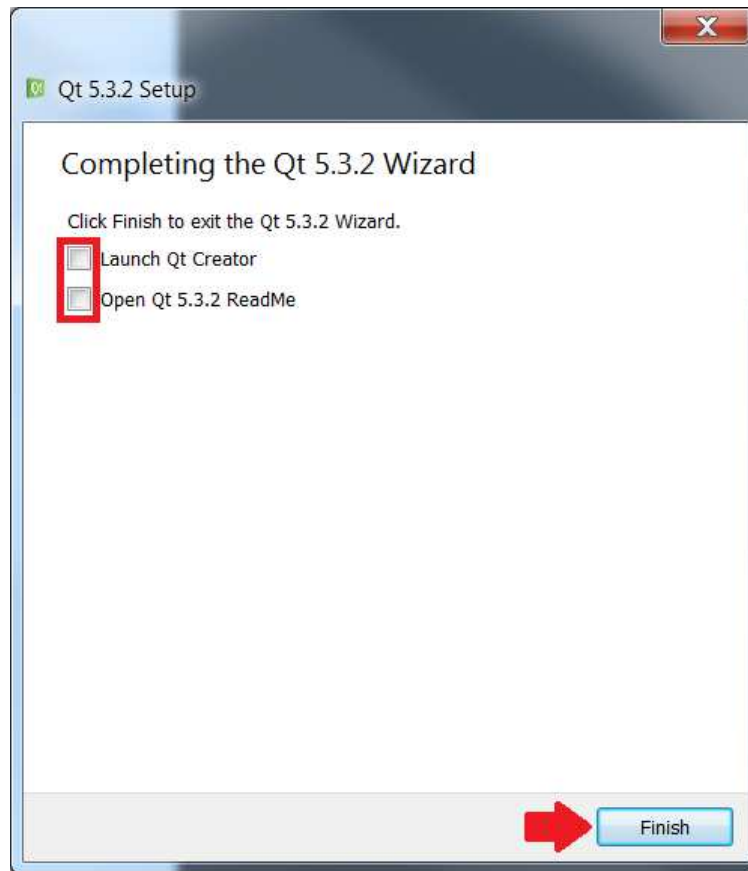

Figure 9. Qt Install Complete
8. Once Qt has finished installing, click “Finish.” Uncheck the boxes for launching Qt Creator and opening the readme as in Figure 9.